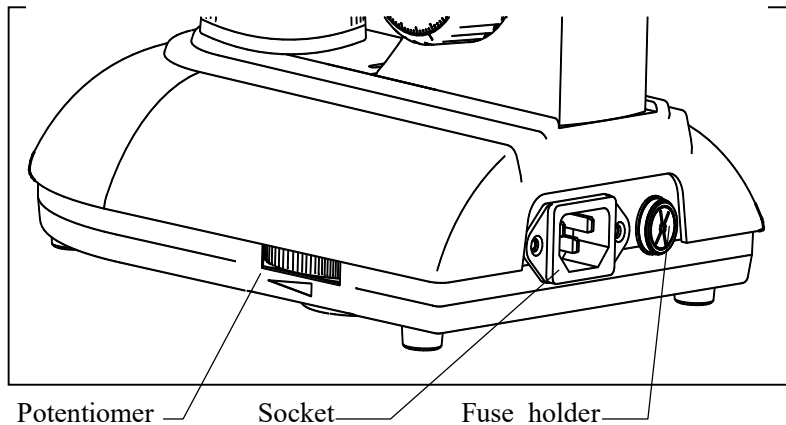

Fig.5 Replacement of fuse
Plug the power line in base socket (Fig.5), plug the other end of power line into power socket. Adjusting LED lamp brightness by slide the base switch.
4.4 Replacement of fuse (Fig.5)